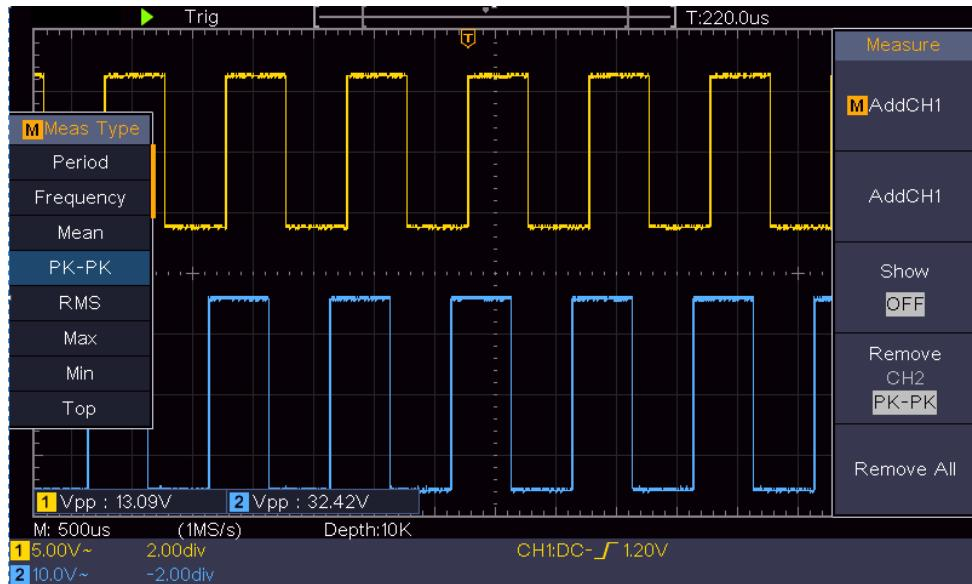

Figure 0-2 Waveform of Gain Measurement
- (1) Push the **Autoset** button and the oscilloscope will automatically adjust the waveforms of the two channels into the proper display state.
- (2) Push the **Measure** button to show the right menu.
- (3) Select **AddCH1** in the right menu.
- (4) In the left Type menu, turn the **M** knob to select **PK-PK**.
- (5) In the right menu, select **AddCH1**. The peak-to-peak type of CH1 is added.
- (6) In the right menu, select **AddCH2**. The peak-to-peak type of CH2 is added.
- (7) Read the peak-to-peak voltages of Channel 1 and Channel 2 from the bottom left of the screen (see *Figure 0-2*).
- (8) Calculate the amplifier gain with the following formulas.